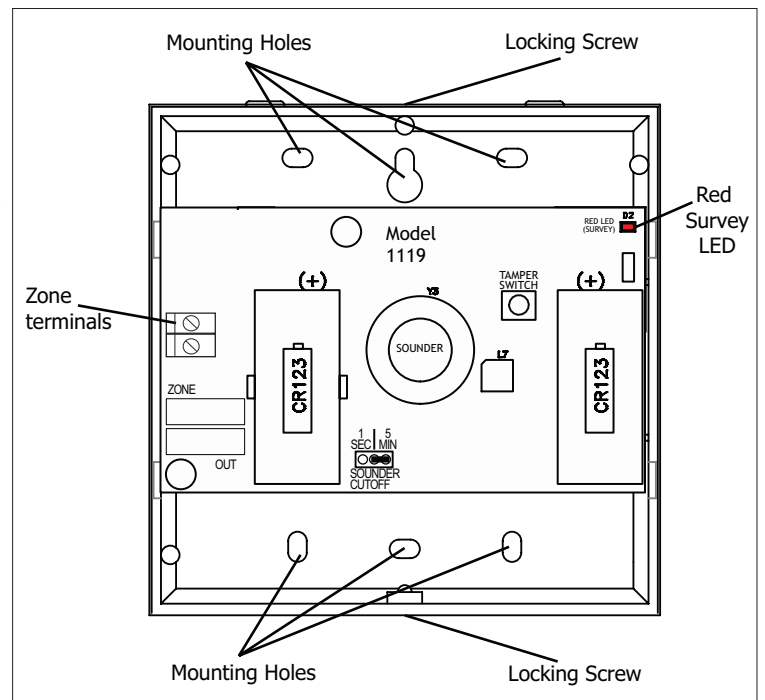

Figure 2: 1119 Wireless Sounder PCB
The 1119 provides a survey capability to allow one person to confirm communication with the receiver while the cover is removed. The 1119 PCB Red Survey LED (See Figure 2) turns on whenever data is sent to the receiver then immediately turns off when the receiver acknowledgement is received. Pressing the tamper switch is a convenient way to send data to the receiver to confirm operation. When the 1119 does not receive an acknowledgement from the receiver the survey LED remains on for about 8 seconds to let you know communication is not established. Communication is also faulty when the LED flashes multiple times in quick succession. Relocate the 1119 or receiver until the LED immediately turns off indicating the 1119 and receiver are communicating properly. Proper communication between the 1119 and receiver is verified when for each press or release of the tamper switch, the LED blinks immediately on and immediately off.
Mount the 1119 on a flat wall or single-gang box away from large metal objects. See Figure 2 for mounting hole locations.
1. Remove the locking screw from the sounder housing. See Figure 2.
4. Place the two 3.0V Lithium batteries in the holders and press into place. See Figure 2 for battery location.